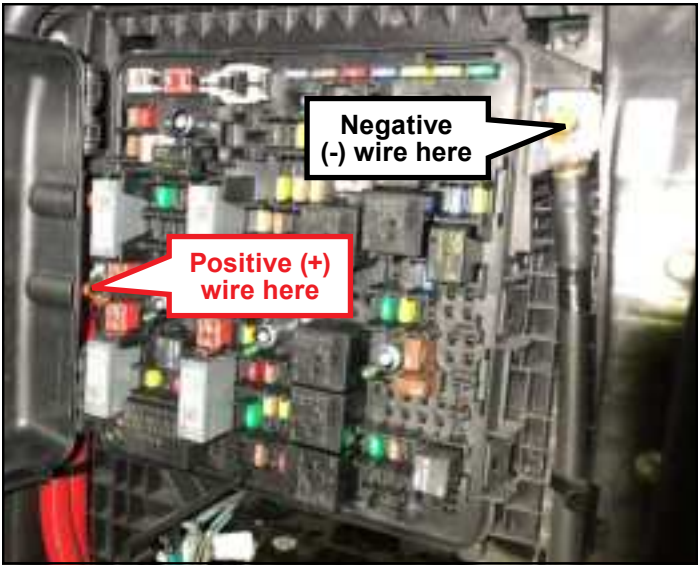

Figure 5
- Connect ring terminals of the harness to the fuse panel, ensuring positive (+) and negative (-) leads are on correct terminals. Secure any excess harness using supplied cable ties. Ensure wire harness does not interfere with installation of fuse panel cover, if applicable. Verify 2A fuse is installed in wiring harness fuse holder. See Figure 5.